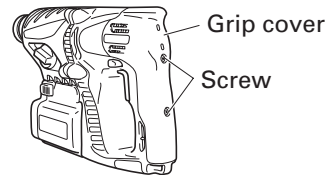
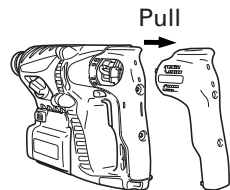

Fig. 21
Fig. 22
- (1) Loosen the screws (2) for the chuck cover, then remove the chuck cover from the housing. (Fig. 21, Fig. 22)